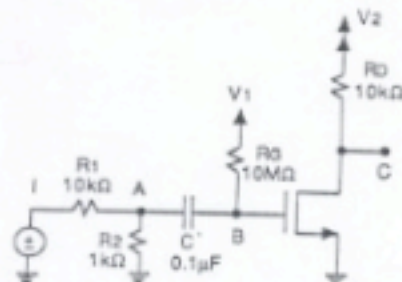

Figure 5.4 A Simple Grounded-Source Amplifier Topology
- (a) For a transistor for which $V_t = 0.90$ V, $k_n = \mu_n C_{ox}(W/L)_n = 0.6$ mA/V², in the circuit of Fig. 5.4, calculate the values of V_1 and V_2 required to provide $i_D = 0.1$ mA with $v_{DS} = 5$ V.
• **The Amplifier Function** We are now going to explore basic amplifier functions, properties and parameters using the circuit of Fig. 5.4. While this is *not* an appropriate amplifier topology for most applications, it has the advantages in the present context of simplicity with adaptability. The voltage V_1 is a dc supply whose role it is to adjust the dc component of v_{GS} and hence the dc value of i_D . The voltage V_2 is a second dc supply with which one can control the dc value of v_{DS} , once the value of I_D is established. Capacitor C isolates the dc level at node B , but is large enough (compared to the resistance level at B) to represent a short-circuit for signals in the frequency range of interest.
- Assemble the circuit of Fig. 5.4 using the 345 NFET (the one whose pins are 3,4,5) with substrates connected to ground and V_2 appropriately.
- Use the circuit of Fig. 5.4 with $V_2 = 15$ V and V_1 adjusted so that $V_C = 5$ V, and a 0.1 Vpp triangle wave at 1 kHz applied to node I .